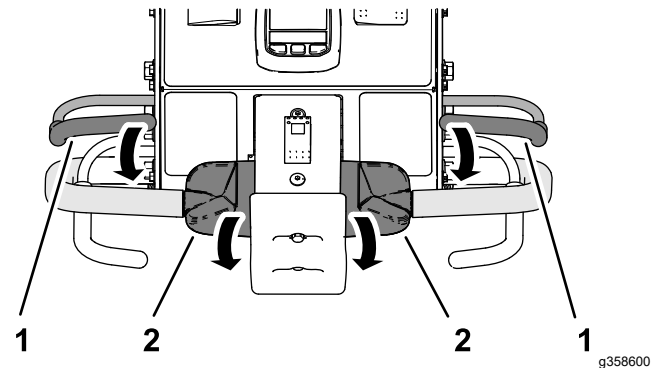

Figure 35
1. Hold either operator-presence bail to the handlebar and rotate the top of the traction control forward (Figure 35).